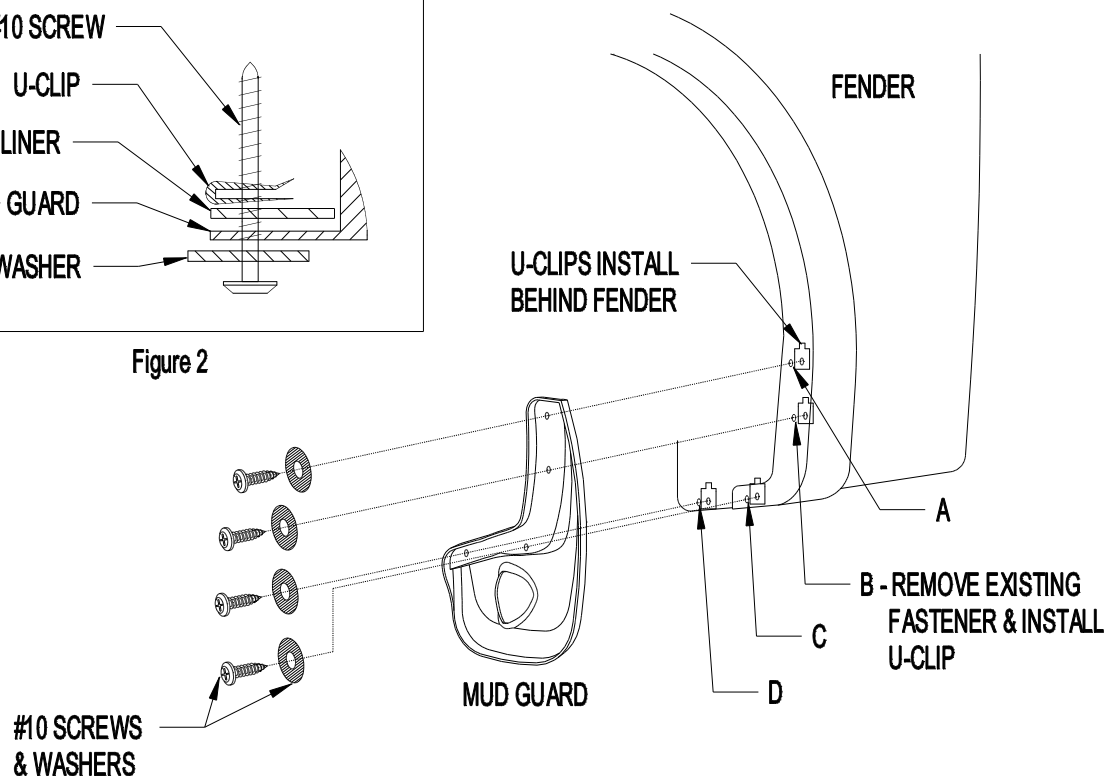

Figure 1
1. Remove existing fastener from location B (Figure 1).